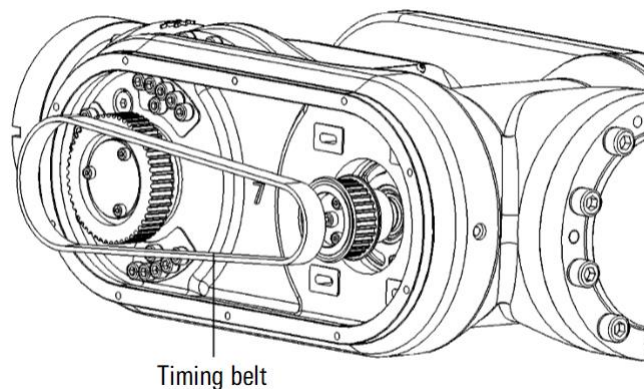

Figure 10-15 Removing synchronous belt
- Step6. Reduce the distance between the two pulleys, remove the old timing belt, and then install the new timing belt, as shown in Figure 10-15.